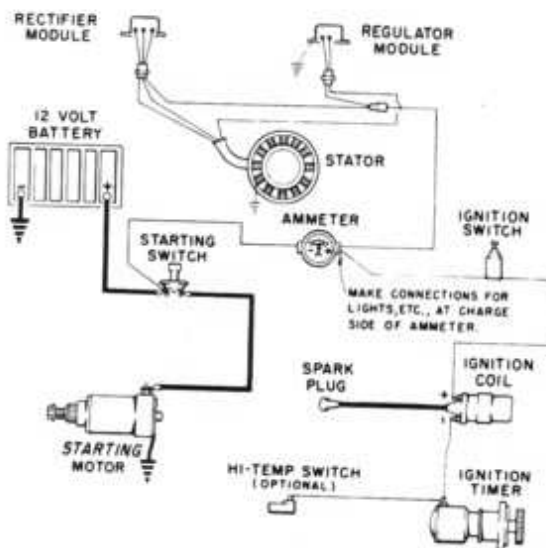

Fig. W41—Typical wiring diagram for ignition, starting and alternator charging systems used on some engines.
**OPERATION.** Alternating current (AC) produced by the alternator is changed to direct current (DC) in the rectifier module. See Fig. W41. Current regulation is provided by the regulator module which "senses" counter-voltage created by the battery to control or limit charging rate. No adjustments are possible on alternator charging system. Faulty components must be renewed. Refer to following troubleshooting paragraph to help pin point faulty component.